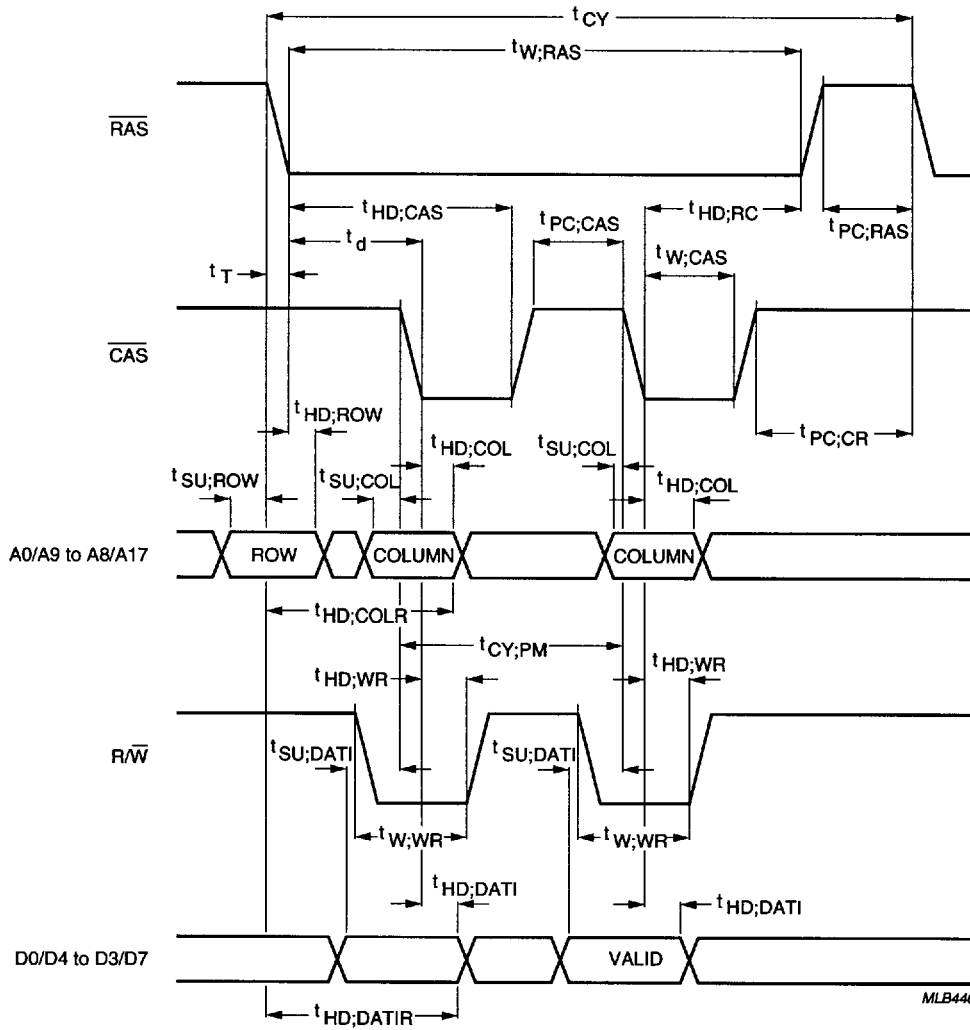

Fig.5 Memory interface timing for write cycle to external DRAM.
MEMORY INTERFACE; NOTE 14; FIGS 5 AND 6
- For details of memory interface timings to and from external DRAM see Figs 5 and 6.